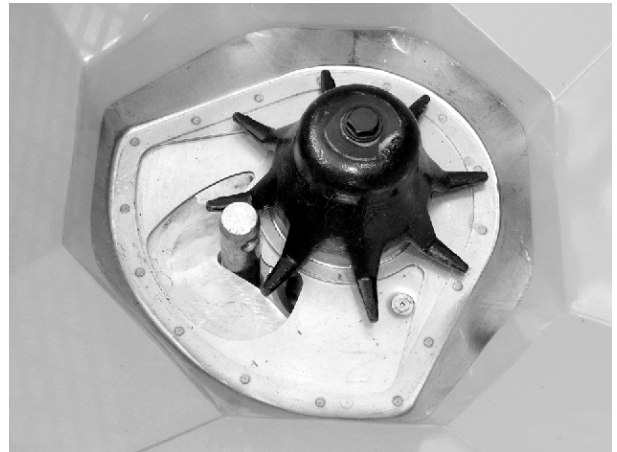

Fig. 61: Lower link pin in metering opening
- ✓ The metering slide is pushed lightly against the pin. See *Fig. 61 Lower link pin in metering opening.*